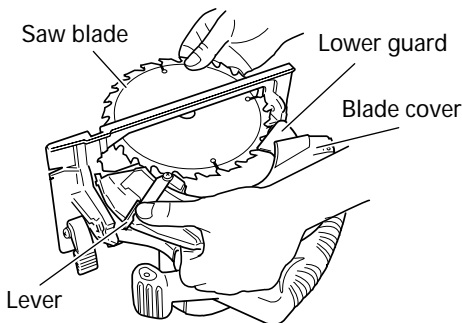

Fig. 16
- (2) Depress the lock lever, lock the spindle, and remove the hexagonal-flange bolt and washer(B) with the wrench.
- (3) While holding the lever to keep the lower guard fully retracted into the blade cover, remove the saw blade. (Fig. 16)